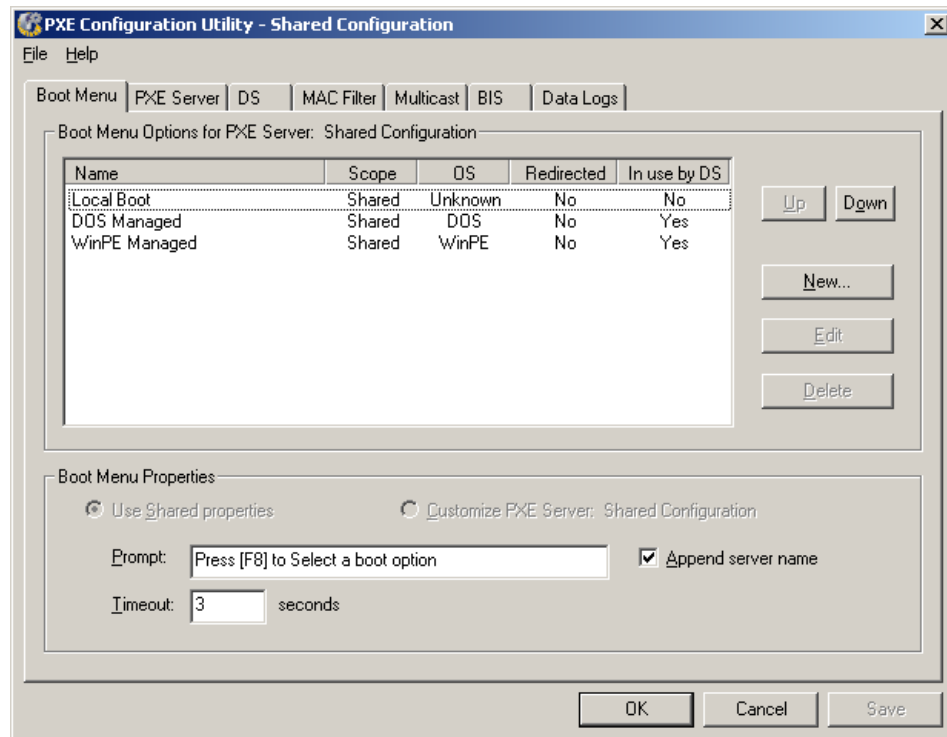

Figure 6-10 The PXE Configuration utility's main window
2. Click **Tools** → **PXE Configuration**. This opens the PXE Configuration utility shown in Figure 6-10.